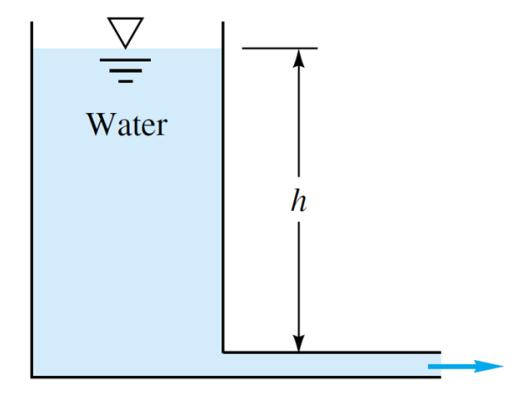

Figure 4
4. A pipe with 20 cm diameter and length of 100 m is connected to a water tank, as shown in Figure 4. Water level in the tank is 5 m height. Density of water is 1000 kg/m³.